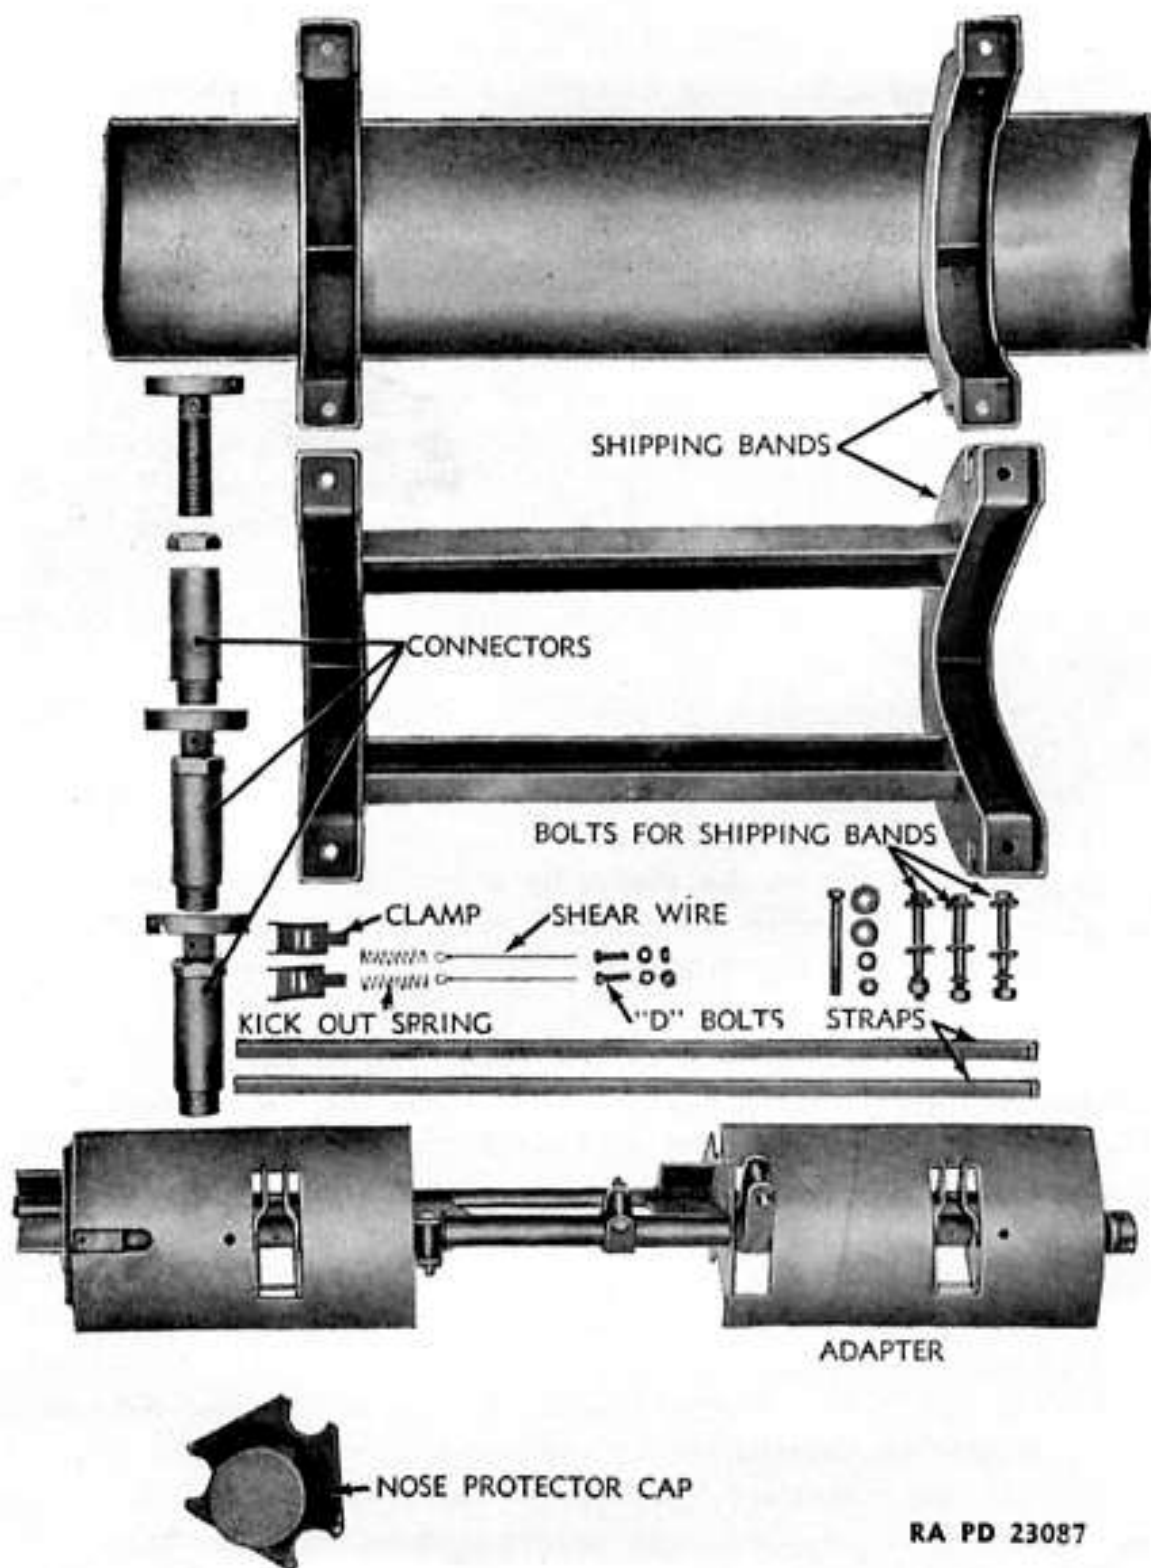

Figure 123. Adapter, Cluster M14—components and packing.
140. ADAPTER, CLUSTER, M14. **a.** The M14 cluster adapter (fig. 123) is designed for either immediate or delayed opening. The adapter consists of two longitudinal steel tubes to which are welded four sheet steel plates which form nose and tail supports for two banks of three bombs each. The lower member serves as backbone for the cluster and carries a fuze vane stop for each bank of bombs. The upper member carries a pair of suspension lugs, a hoisting lug, two buckles for holding and releasing steel straps holding the bombs in the cluster, and adapters for nose and tail fuzes.
f. Shipping bands. The shipping band (fig. 123) for the cluster consists of an upper and a lower member. Each consists of two semi-circular channels joined by sheet metal troughs. The upper member has, in addition, extensions to protect the nose and tail of the cluster. When the cluster is placed in shipping bands, a nose protector cap and three connectors are installed. The nose protector cap is a flanged cup which fits over the forward vane stop of the adapter and is held in place by the fuze-hold plugs of the forward bank of bombs. The connectors are small screw jacks which are screwed into the fuze adapter of each of the bombs in the rear bank and butt against the cones of the corresponding bombs in the forward bank.